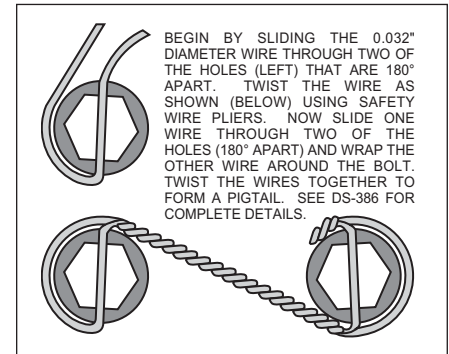

Figure 3. Safety Wire Diagram
- The caliper mounting bracket assembly (1) should be installed first with clean, dry threads on the mounting bolts. The bracket must tighten squarely against the outboard side of the caliper mount bosses on the spindle body. Inspect for interference from casting irregularities, machining ridges, burrs, etc. Slide bolt (2) through the hole in the spindle body where the OEM bolt was removed. Use one thin shim (4) between the bracket and spindle during initial trial fitting. Later, after the caliper, pad and rotor alignment have been checked, and any necessary shims have been put in place, the mount bolts (2) should be coated with red *Loctite*® 271 and torqued to 47 ft-lb.
- With the larger I.D. side of the rotor (5) facing away from the hat (6), bolt rotor (5) to hat (6) through the backside of the rotor using washers (7) and bolts (8). Torque bolts (8) to 85 in-lb. Safety wire bolts (8) using standard 0.032 inch diameter stainless steel safety wire as shown in Figure 3. Please refer to Wilwood's data sheet DS-386 (available at www.wilwood.com/Pdf/DataSheets/ds386.pdf) for complete safety wire installation instructions. Slide the rotor/hat assembly onto the spindle. Install a couple of lug nuts (hand tighten) to keep the rotor/hat assembly in place while continuing with the installation.